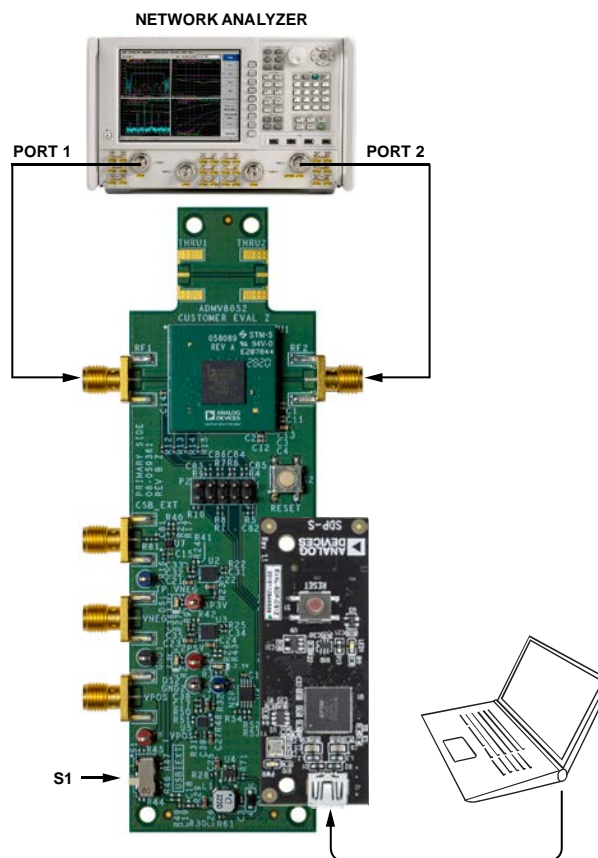

Figure 2. Lab Bench Setup
To power the ADMV8052-EVALZ using the 5 V USB supply, slide the S1 switch down (as shown in Figure 2) to power the on-board negative voltage generator and LDO regulators. Alternatively, the ADMV8052-EVALZ can be powered externally by sliding the S1 switch up and then connecting the power supplies to the VPOS and VNEG Subminiature Version A (SMA) ports or test points. The applicable voltage range for the positive input VPOS is between 3.5 V and 5.5 V, and the applicable voltage range for the negative input VNEG is between -5.5 V and -2.7 V.
Figure 2 shows an example lab bench setup for the ADMV8052-EVALZ. To observe the filter response from the ADMV8052-EVALZ, connect the RF1 and RF2 ports to a network analyzer (or similar instrument). Typically, RF1 and RF2 are connected to Port 1 and Port 2 on the network analyzer, as shown in Figure 2.
1. Connect the RF1 and RF2 ports to a network analyzer (or a similar instrument). Typically, RF1 and RF2 are connected to Port 1 and Port 2 on the network analyzer, as shown in Figure 2.
3. On the ADMV8052-EVALZ, slide the S1 switch down (as shown in Figure 2) to power the ADMV8052-EVALZ from the 5 V USB supply voltage from the PC via the SDP-S.